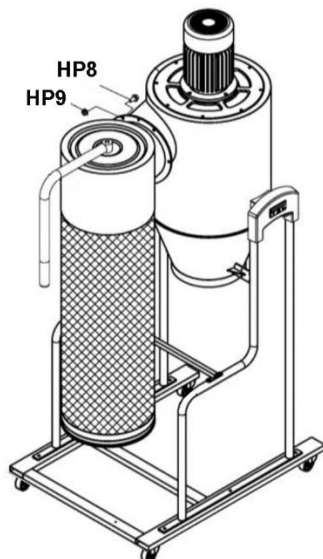

Figure 9
10. Place gasket (X) between canister filter and main housing. Install canister filter onto main housing, and tighten with flange head screws (HP9) and nuts (HP10). See Figure 9.